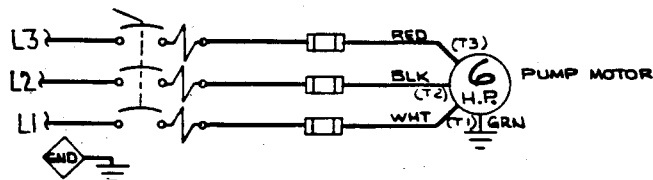

Figure 6. Elementary Wiring Diagram (Without Liquid Level Controls)
- a. Measure the incoming voltage across lines (1 & 2, 2 & 3, and 1 & 3.) while the pump is **operating at full capacity**. See Figure 6 on page B-14 or Figure 8 on page B-15.
Connect the pump power cable to the control box as shown in Figure 6 on page B-14 or Figure 8 on page B-15. Use conduit or cable clamps to secure the power and